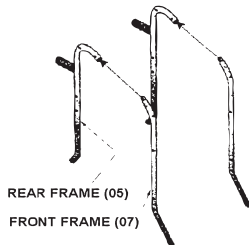
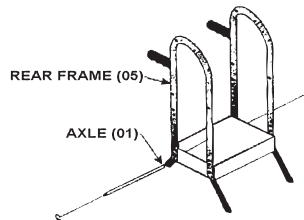

Figure 1. Frame Assembly
Figure 2. Large Tray and Axle Assembly
2. Insert one front frame (07) into one rear frame (05) as shown in **Figure 1**. Insert the swaged end of the front frame into the curved portion of the rear frame near the handle. Be sure the lock buttons on the front frames fit into the holes in the rear frames.
3. Assemble the large bottom tray (03) between the two frame assemblies. Attach using two screws, four washers and two nuts per side.
4. Insert the axle (01) through the bottom holes in the rear frames, as shown in **Figure 2**. Secure with snap rings.